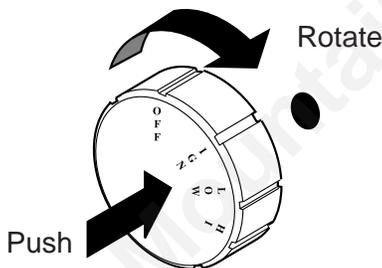

Figure 45 - IGN Position
6. From OFF position, push in gas control knob slightly and turn counterclockwise to the IGN position. See *Figure 45*. Push in and hold control knob for 5 seconds.
4. Refer to *Figure 45, page 30* for the location of the piezo ignitor and control knob. Turn control knob clockwise  to the OFF position.